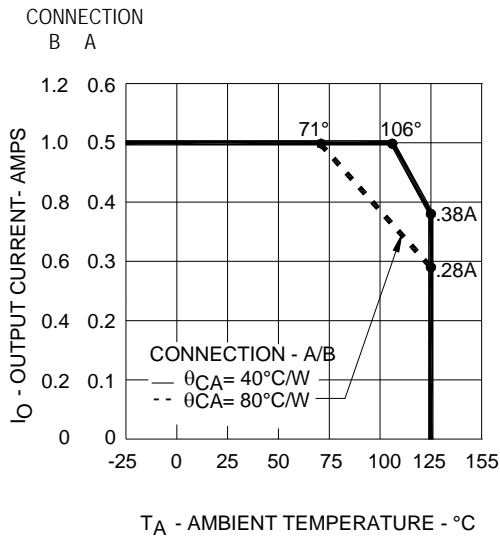

Figure 3. Maximum Average Output Current Rating vs. Ambient Temperature. (Note A)
Average Output Current, derated per Figure 3
3. For rating, see Figure 5. The output power  $P_D$  rating curve is obtained when the part is handling the maximum average output current  $I_O$  as shown in Figure 3.